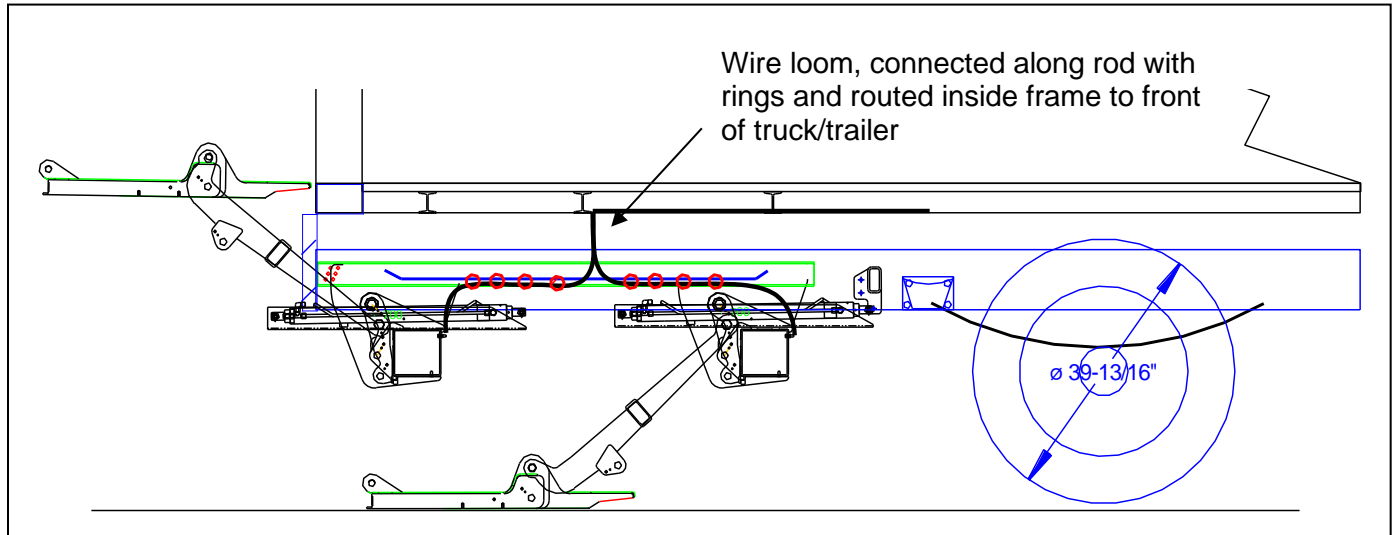

Figure 12 Power cable routing on passenger side
- The wiring loom is coiled up with the gate delivered. Run the cable loom to inside of the frame like shown in Figure 12.